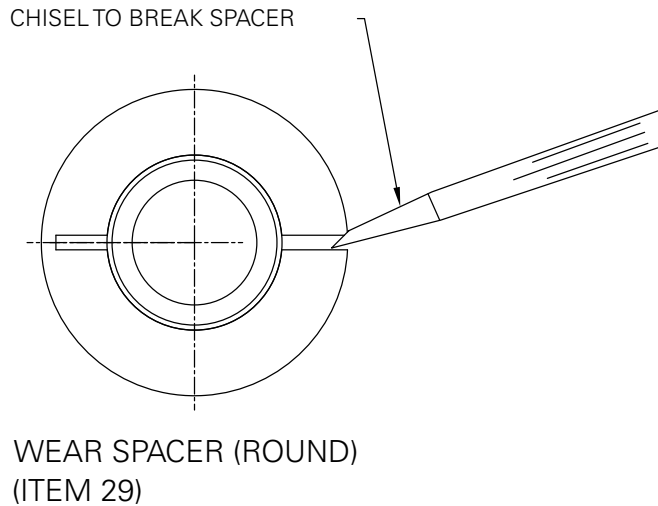
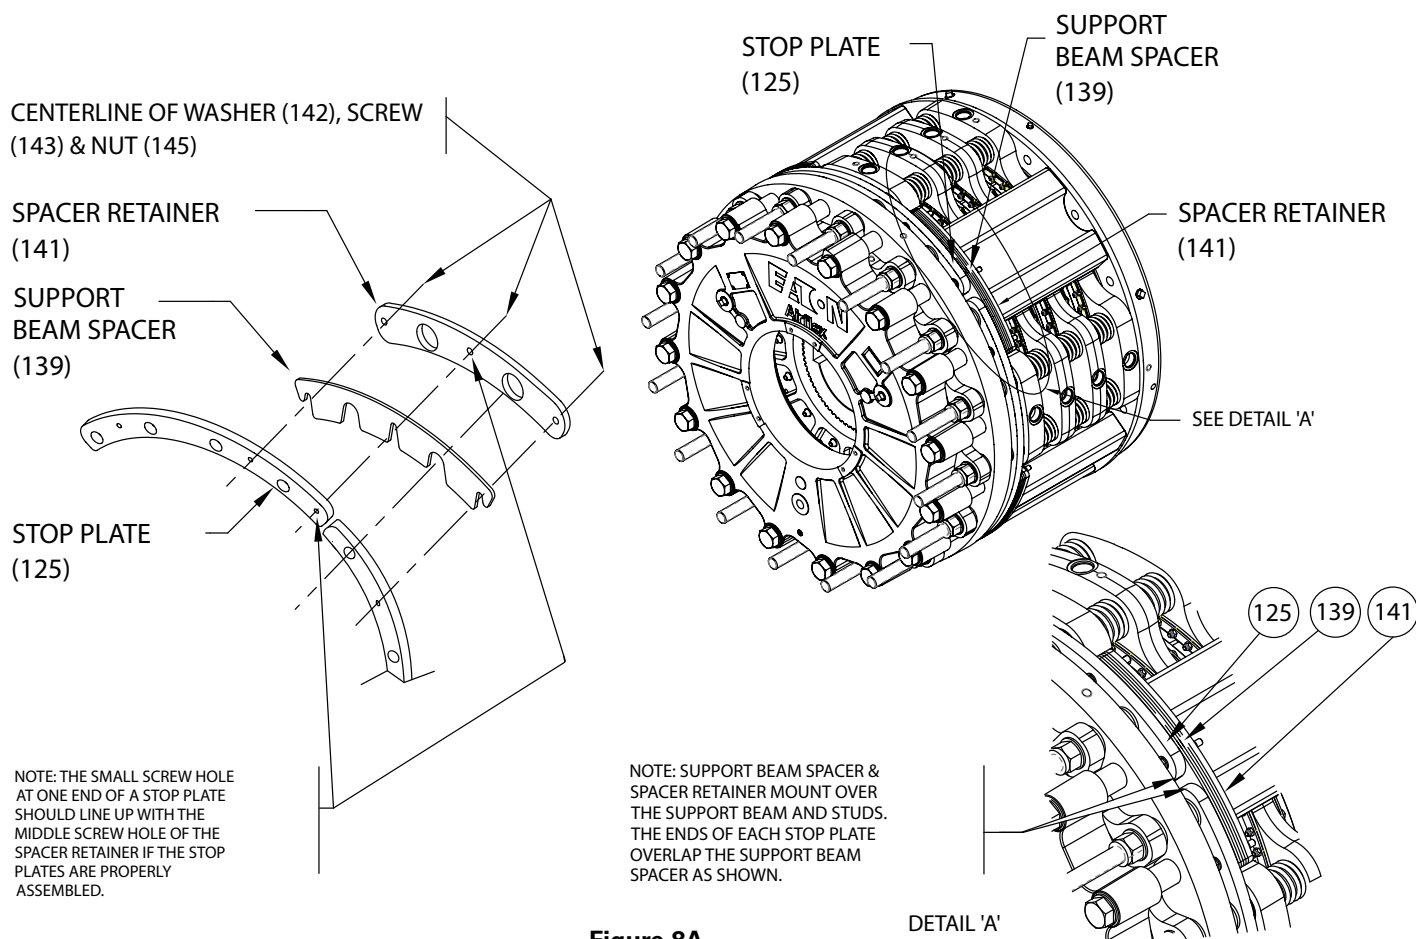

Figure 8
Figure 8A
- 4.2.2.3 Wear spacers (29) are slotted to allow for in-place removal. Using a narrow chisel wedged into the slot of the wear spacer, as shown in Figure 8, pry the wear spacer until it fractures and is clear to be removed from the stud. Support beam wear spacers (139), Figure 8A, are designed with a slot to allow for positioning with alignment pins (Hex screw, nut and washer 142, 143 & 145) as shown in Figure 1B, Section Z-Z. Loosen the hex locknut (145) that captures the support beam wear spacers between the stop plate (125) and the wear spacer retainer (141). Slide out one support beam wear spacer. Reposition the remaining spacers and tighten the self-locking nut. Torque the locknuts to specification per values in Table 4.